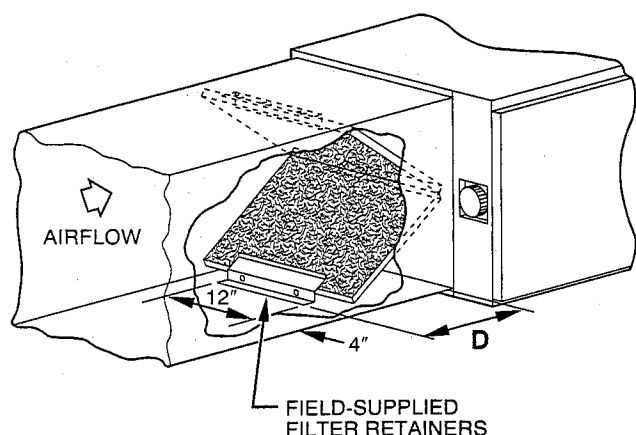
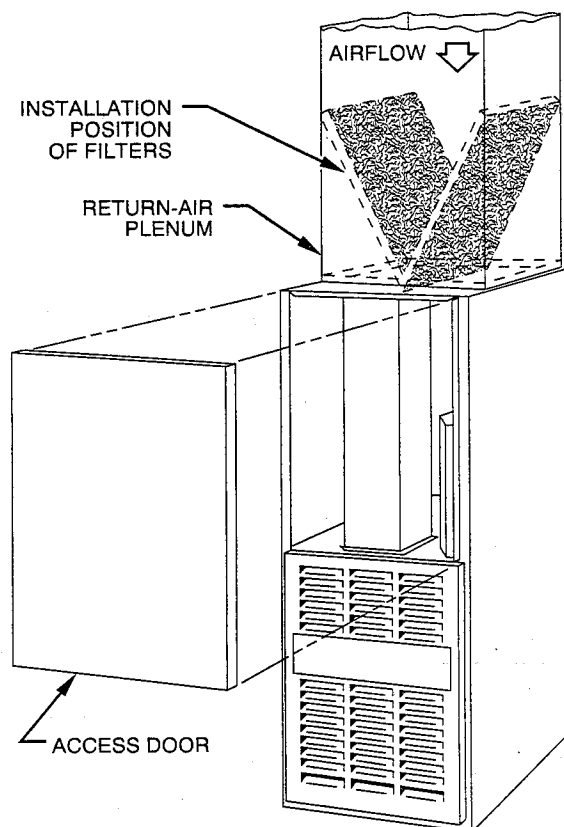

Fig. 8—Horizontal Filter Arrangement
Fig. 9—Position of Filters
3. Install field-supplied filter retainers as indicated in Fig. 8 and Table 4 before connecting return-air duct to furnace.
Fig. 8 and Table 4 for horizontal applications. Horizontal filter retainers must be field supplied. See Fig. 9 for downflow applications.